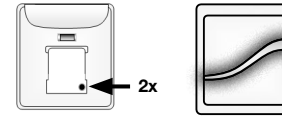

Fig. 22
- A. Press and release the program button on the back of the remote twice in rapid succession (two taps). The LED on the new group remote will alternately flash amber and green to identify inclusion mode. (Fig. 22)